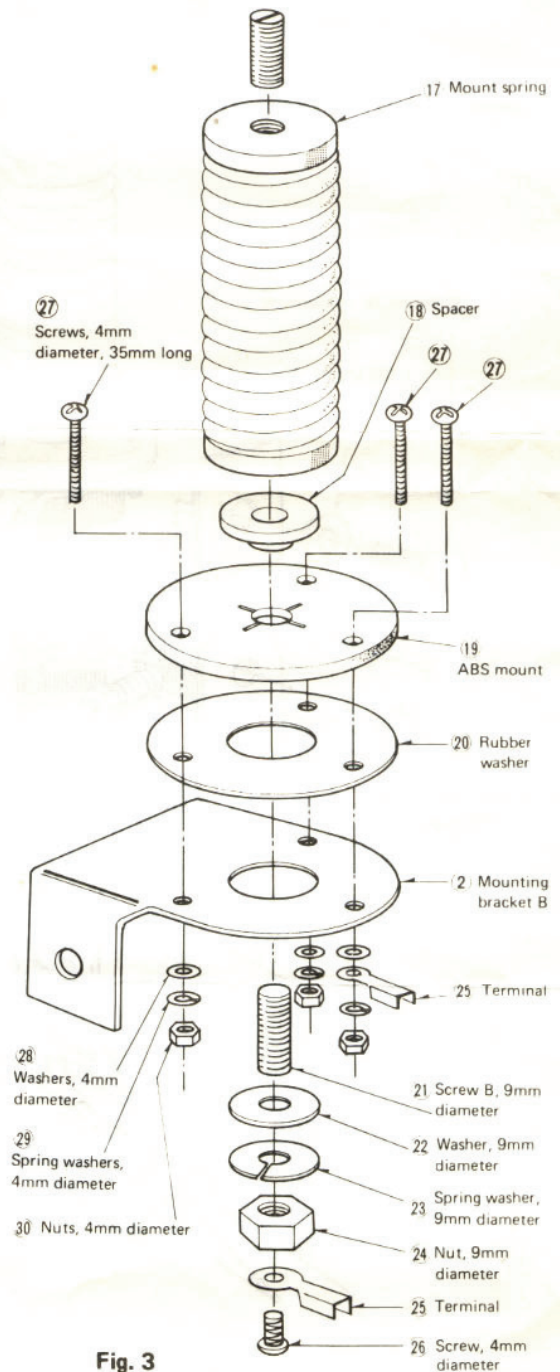

Fig. 3
2. Mounting Bracket B (see Fig. 3)
- Place the rubber washer (20) on the mounting bracket B, then place the ABS mount(19) thereon confirming the mounting holes.
- Insert the three screws(27) into the mounting
holes as shown in Fig. 3. Tighten the screws loosely with the washer(28), spring washer(29) and nut (30), with the terminal(25) attached to one of the screws as illustrated.
- Next, place the spacer(18) on the ABS mount(19), then place the mount spring(17) on the spacer.
- Attach the washer(22) and spring washer(23) to the screw B and tighten with the nut(24).
- Finally, tighten the terminal(25) to the screw B (21) using the screw(26).